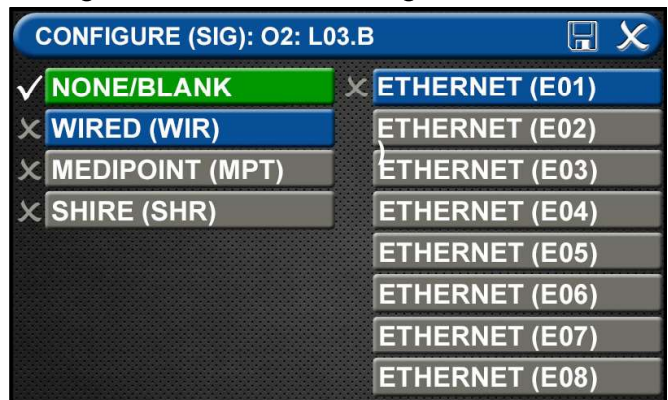

Figure 182: Ethernet Screen
- Touch the ETHERNET tab that corresponds to the alarm panel providing the source signal to be mirrored (Figure 182).